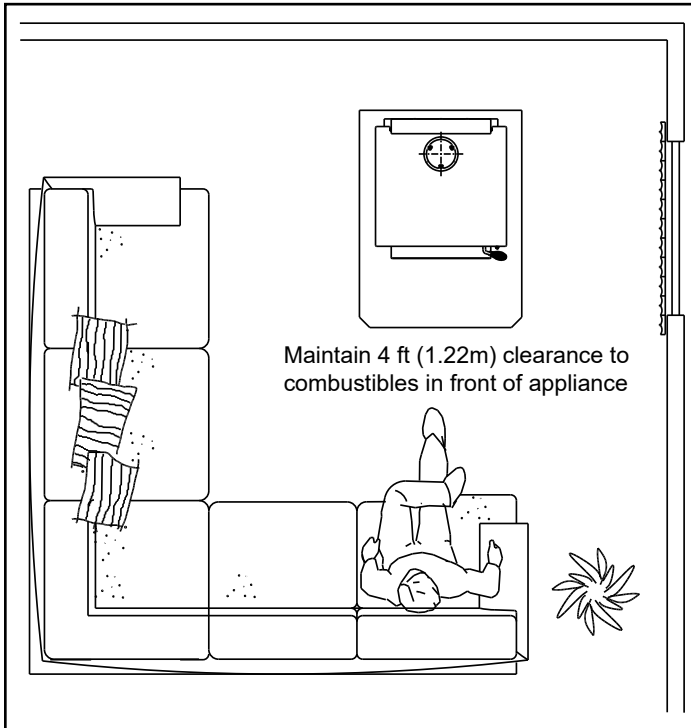

Figure 14.1
**NOTE:** Do NOT place combustible objects within 4 ft (1.2m) of the front of appliance (**Figure 14.1**).